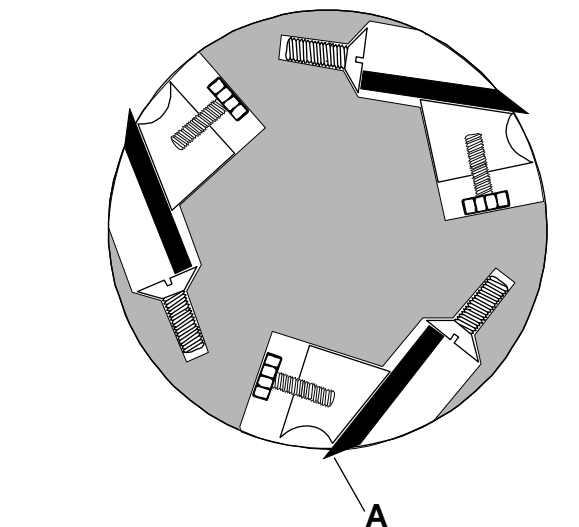

Figure 16
2. Rotate the cutterhead such that one of the *knives* (A, Fig. 16) is at the 6 o'clock position.